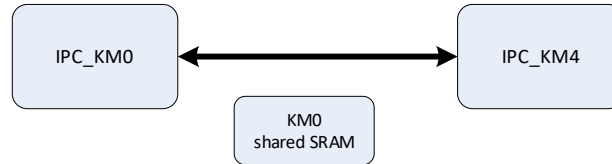

Figure 22-1 IPC block diagram
There are two-CPU's named KM4 (AP) and KM0 (NP) integrated in the RTL8721Dx. The inter-processor communication (IPC) hardware is designed to make these CPU's communicate with each other. Also, a KM0 shared SRAM is used to transmit information to each other. The block diagram is shown in Figure 22-1.